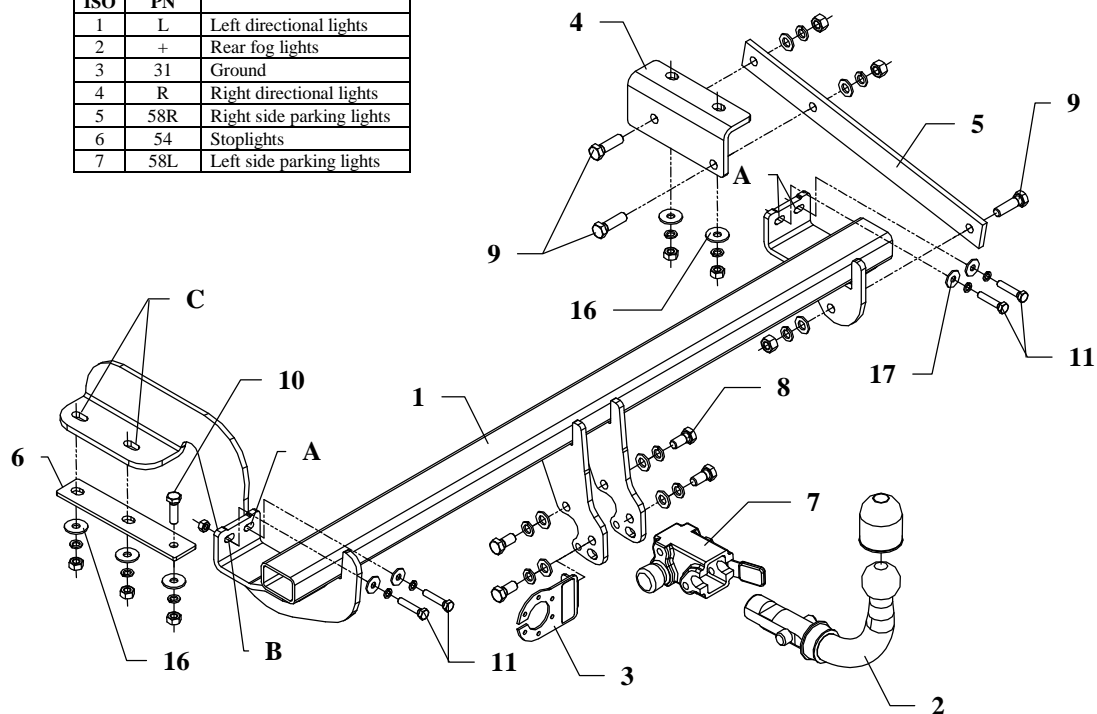

Fig. 1
2. In points A (see fig. 1) one ought to unscrew the original bolts.
5. Apply the main bar of the towing hitch (pos. 1) at points A, B and C.
6. Assembly elements of muffler fastenings with fish-plate (pos. 6).
7. Apply the angle bar (pos. 4) to the right chassis member.
8. Fix loosely flat bar (pos. 5) to the angle bar (pos. 4) and to the main bar of the towing hitch (pos. 1) using bolts M12x40mm (pos. 9).
9. Fix body of the automat (pos. 7) and the socket plate (pos. 3) using bolts M12x25mm (pos. 8) from accessories. Place tow-ball (pos. 2) according to supplied instruction.